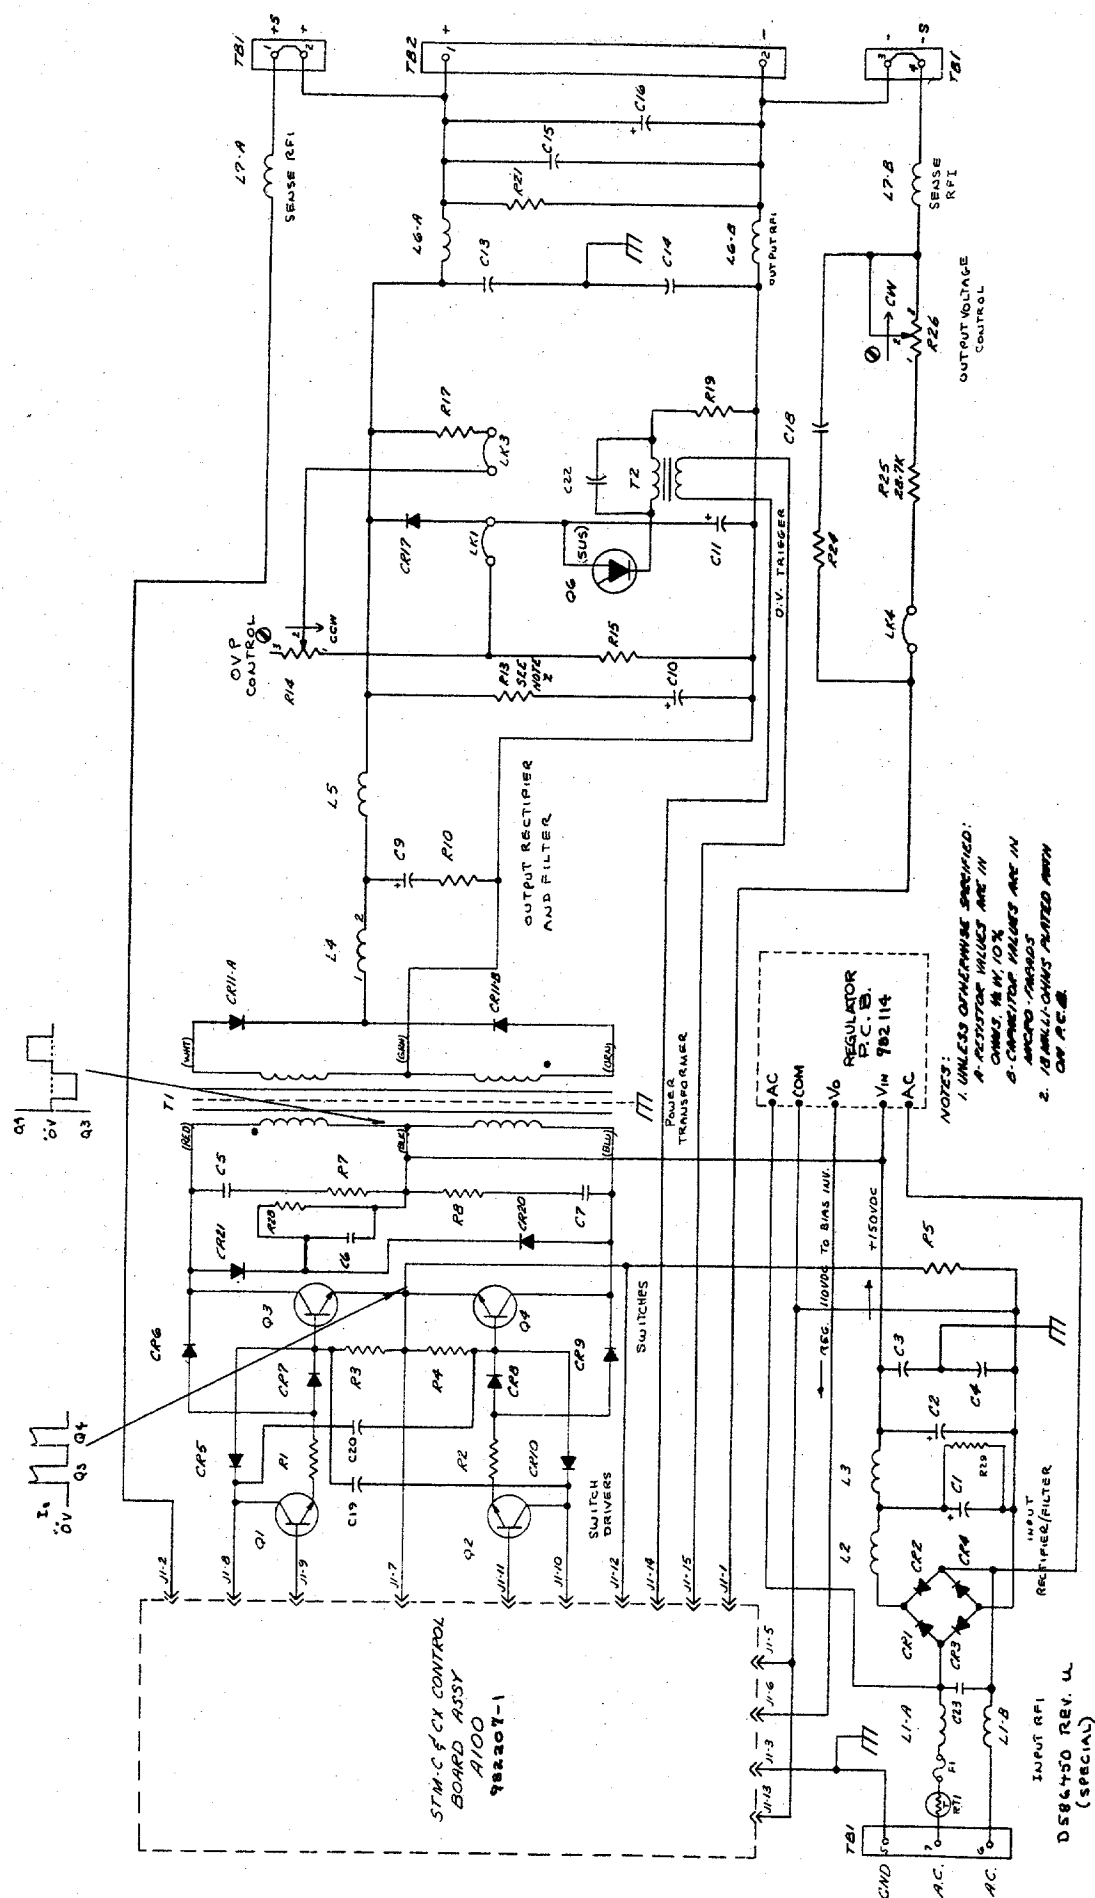

Figure 5-2
1. For units up to 12-volts output; CR12, Q5, VR1, Q6, CR18, or an associated component, (Figure 5-2).
D. Input fuse open.	1) Replace fuse. 2) For repetitive fuse failures, perform the following checks as necessary. a. Remove power and replace fuse. b. Connect a VOM (Simpson 260 or equivalent) set to the R x 1 scale between the transistor case (+) and emitter (-) of Q4 (Figures 5-2/5-3). A normal indication is an open circuit condition. If this occurs, continue to paragraph c. following. If a short is indicated (less than 15 ohms), remove the (Q3 and Q4) transistor case screws, which will isolate the collector(s) from the circuit. Repeat the resistance test for each transistor, collector to emitter. A short indicates a faulty transistor. Replace as necessary. NOTE After replacing Q3/Q4, do not yet insert Q3/Q4 case screws until the probable cause of failure has been determined. Refer to Q3/Q4 troubleshooting, (paragraph 5.4.2). c. Check for shorted input rectifier (CR1-CR4) as applicable. d. Check for short from input to chassis (TB1-6 or -7 to TB1-5). e. Connect the VOM across input terminals TB1-6 and -7. Remove the A100 control card. If the short is eliminated, proceed to the control PCB troubleshooting procedure (paragraph 5.4.4).
(Ref. Fig. 5-2, P 5-8)